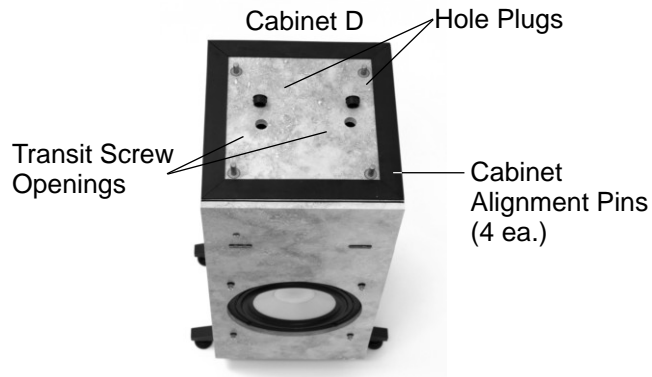

Fig. 5
- Locate four (4) aluminum Base Supports and eight (8) #10-32 x 1" stainless machine screws.
- Using a phillips screwdriver, mount 2 ea. aluminum Base Supports to the bottom of cabinets B and D with eight (8) #10-32 x 1" stainless machine screws.
- 1c. Locate eight (8) Adjustable Feet with locknuts and thread two (2) into each of four (4) Base Supports until snug.
2. Raise two (2) bottom cabinets B and D to their upright position.
- 2a. Locate eight (8) stainless 1/4" x 1" alignment pins.
- 2b. Install four (4) ea. alignment pins into top of cabinet B and D.
- 3a. Cabinet D has two(2) 1/2" holes in the top to allow access to two (2) Transit Screws, which lock and protect the CD player during shipment. See Fig. 5. These screws must be removed before mounting cabinet C and before playing CD's.
- 3d. Locate two (2) 1/2" plastic hole plugs and insert into transit holes on top of cabinet D.